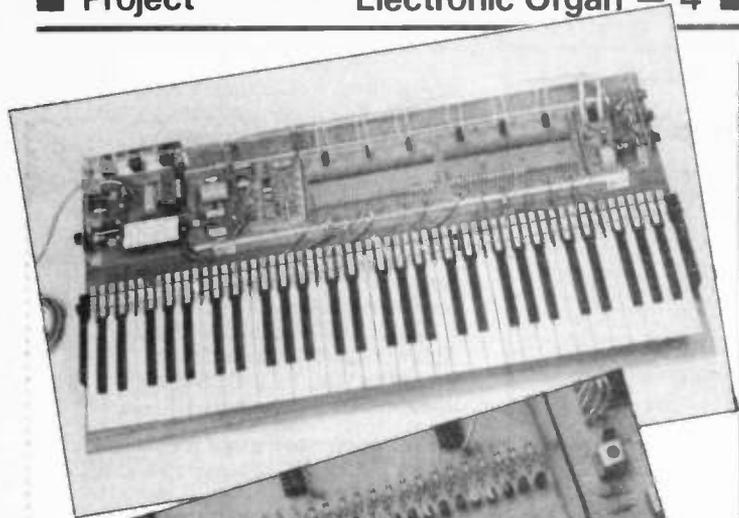

Figure 2 (top). The complete HE Electronic Organ
generator. Use a fairly stiff variety of multi-stranded wire and carefully form each piece: to come vertically up from Board 2; then, to bend back at 90° towards the back of the organ; to bend left at 90° along the back of the board; then, to bend forward at 90° towards the front; and finally, to bend down at 90° to the correct connection point on either Board 3 or Board 4. The view of the complete project (Fig. 2) shows the idea.
- In Fig.2, capacitor C9 should have a value of 220u, not 220n as we show. The Parts List is correct, however. Also capacitor C12 can be 22n and capacitor C13 can be 10n, although neither are critical.
- Again in Fig.2, capacitor C3 should be turned around (ie, its positive plate should be at the bottom).